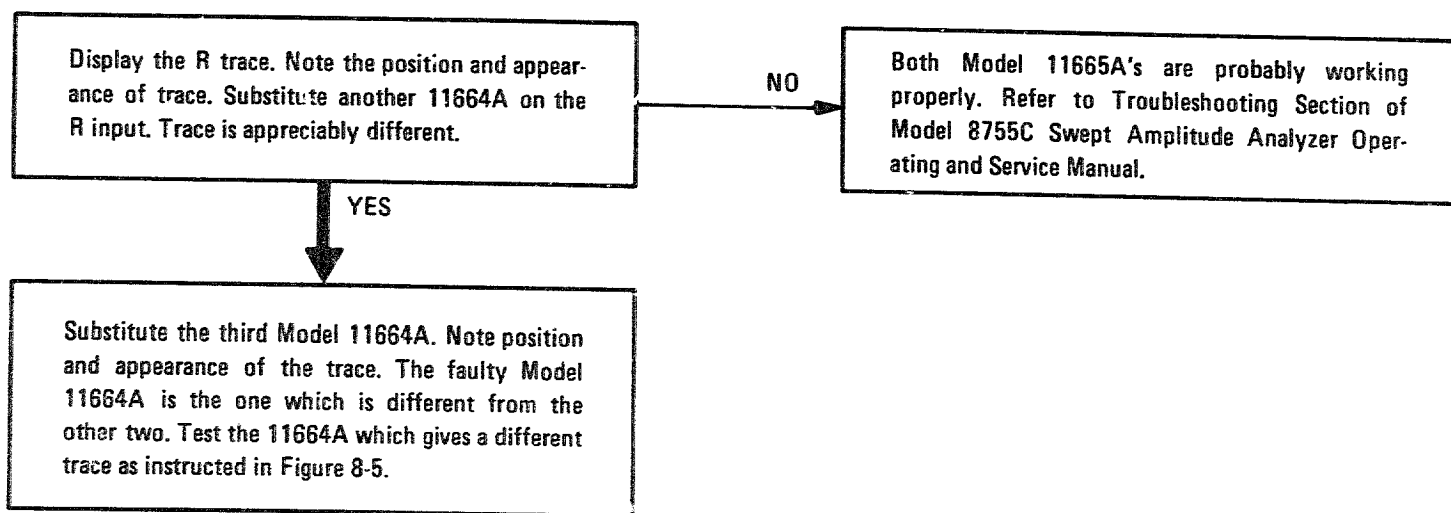

Figure 8-4. Preliminary Troubleshooting
1. Follow the procedure in Figure 8-4 to determine if the Detector has failed and to eliminate the possibility of failure in the 8755C Swept Amplitude Analyzer.
From Figure 8-4, Preliminary Troubleshooting